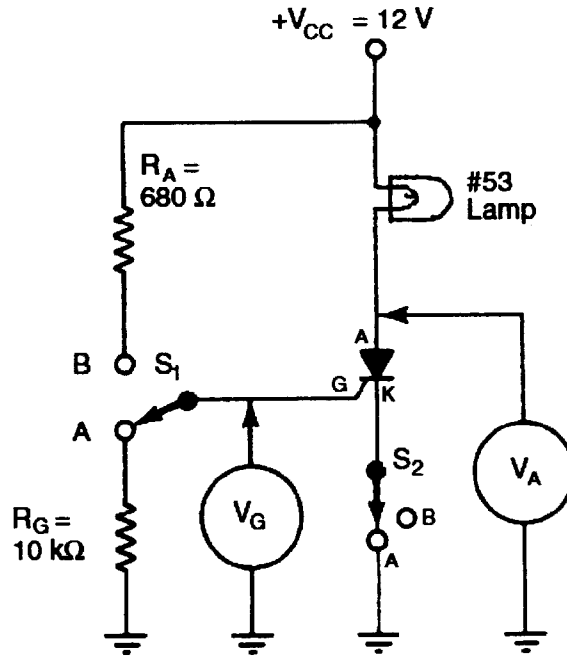

Figure Q3
- Q3** (a) The silicon controlled rectifier (SCR) is a semiconductor device with four PN layers is shown in Figure Q3 which has three terminals, labeled anode (A), cathode (K) and gate (G). Set the switches as shown in the diagram and then apply power to the circuit. Calculate the anode and gate voltages and hence state the condition of SCR as shown in Table Q3(a). (10 marks)
- Q4** (a) List four (4) control modes used by the controller section. (4 marks)
- (c) List and define eight (8) terms associated with control modes for closed-loop systems. (8 marks)
- (d) List two (2) factors that cause the controlled variable deviate from the set point in an on-off system. (4 marks)
- Q5** (a) List and define two (2) characteristics used in the motor selection process. (5 marks)